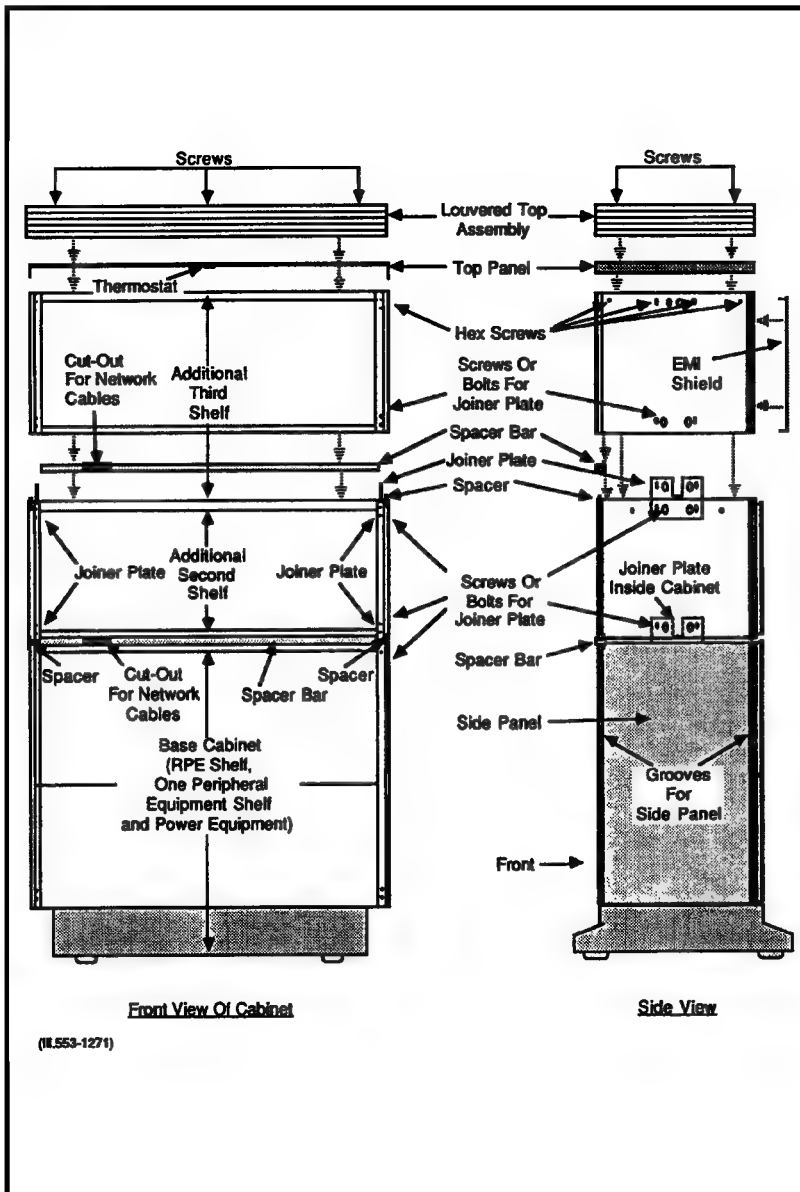

Figure 2-7
- 17 Connect power connector from QCAD276 or QCAD277 power cable to connector J on the shelf backplane according to shelf position in the cabinet (Fig. 2-7).